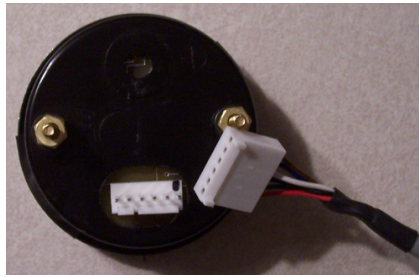

Figure 1
3. **Plug the cable into the back of the *Interceptor*.** See figure 1. Press the *Interceptor(s)* into the gauge pod or mounting hardware.